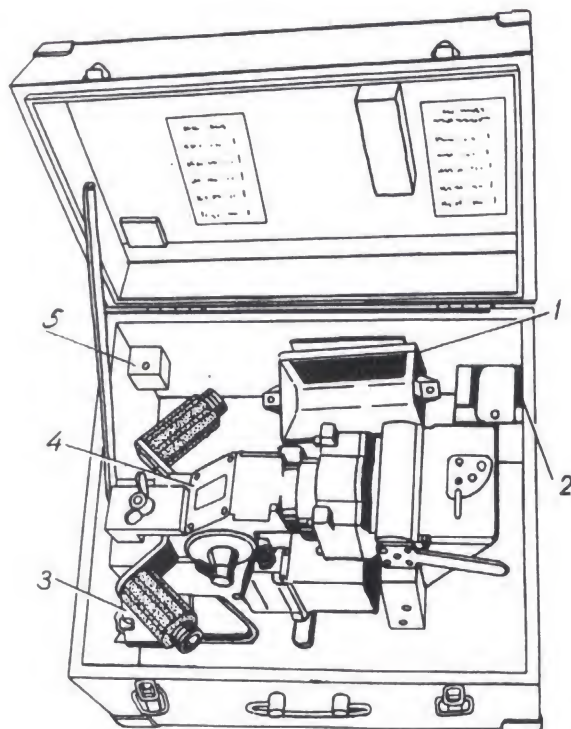

FIG. 107. STOWAGE OF NIGHT VISION DEVICE TKH-1C
2. Spare parts and accessories arranged in the stowage box of the night vision device (Fig. 107).